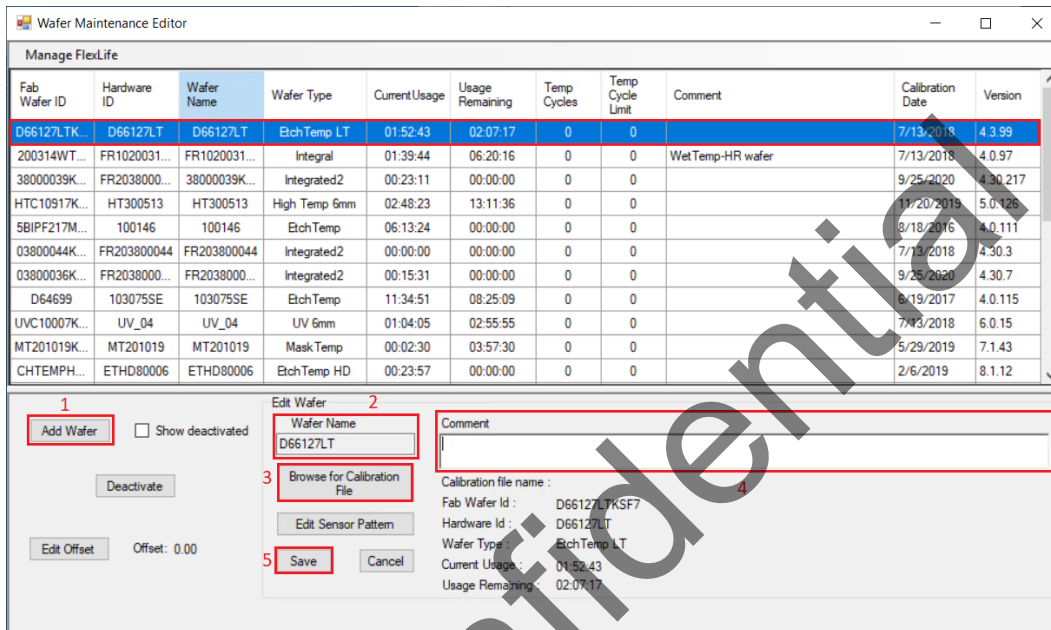

Figure 5-7 Wafer Maintenance Editor window
9. You can see the added Calibration File in the Wafer Maintenance Editor Window as shown in Figure 5-7.